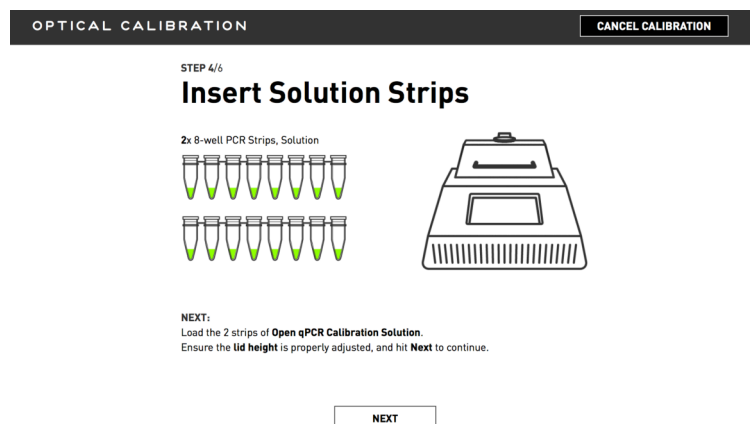

Figure 3.8
8. Once the reading completes, insert the Fluorescein solution strips (Figure 3.8). Press down on the tubes gently once they are inserted. Click **Next**.